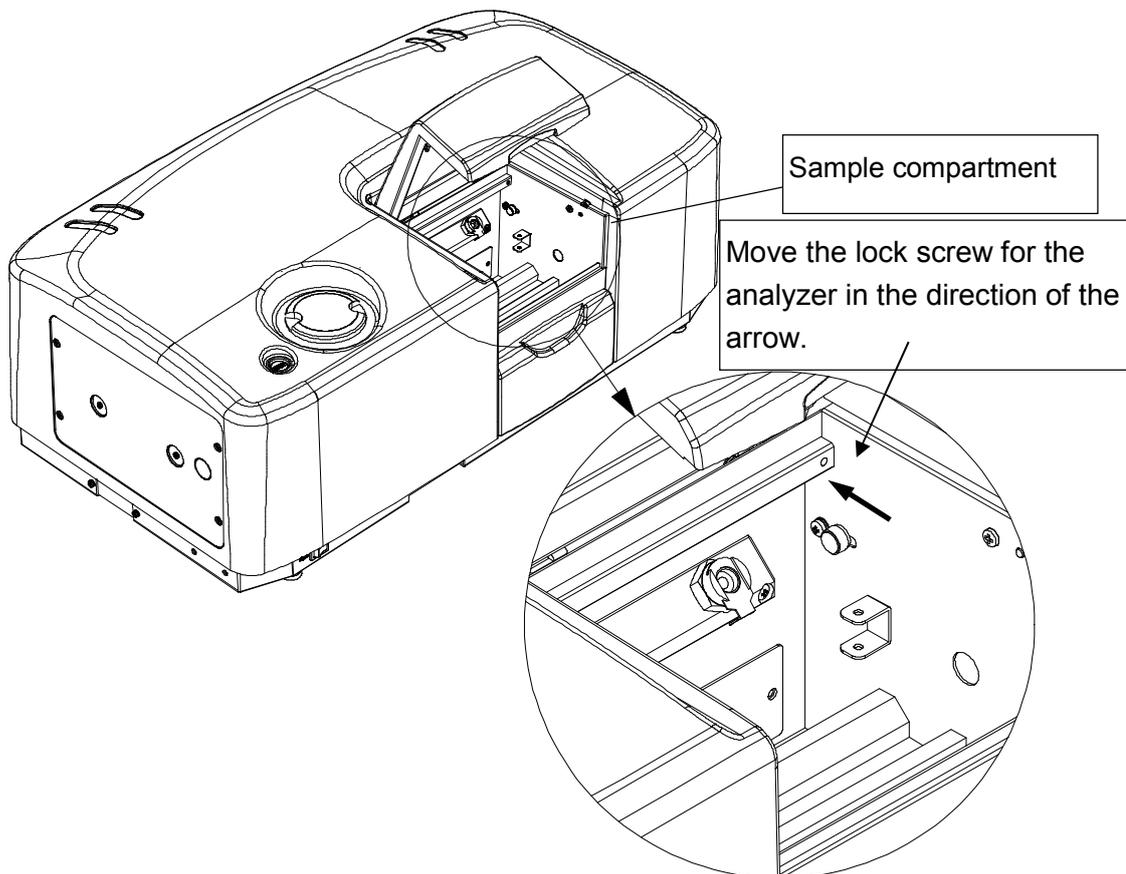

Figure 1.2 Overview of the polarimeter (loosing the lockscrew for the analyzer)
- (1) Open the sample compartment lid (Fig. 1.2).
- (2) The lock screw for the analyzer can be seen at the right side of the front of the sample compartment. Loosen this screw by turning it counterclockwise by about two rotations and move it back until it stops, then turn it clockwise to fix it in position. This operation releases the analyzer.